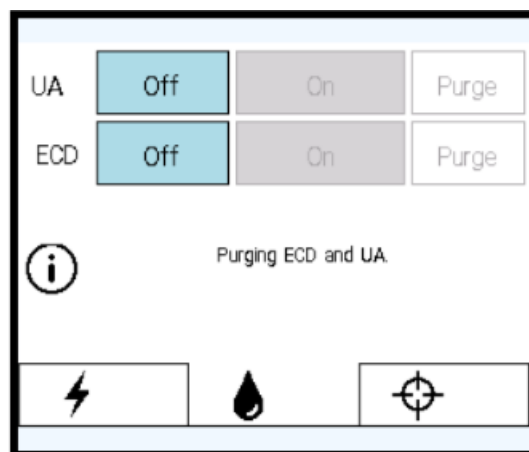
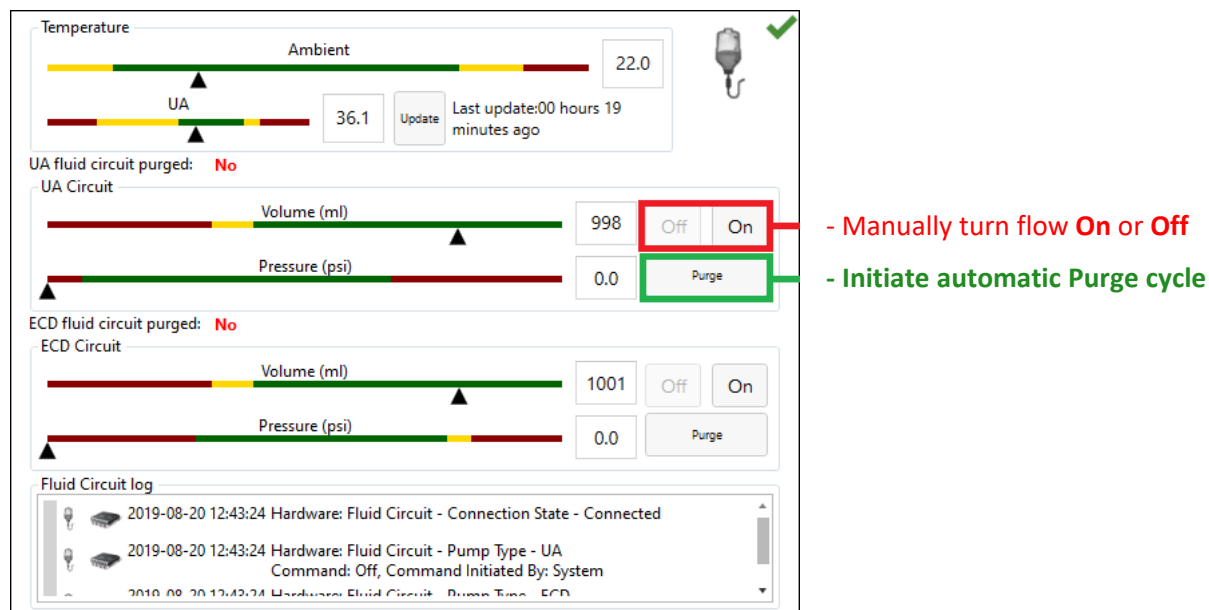

Figure 11: PSIB Display - Fluid Circuit tab
Figure 12: Fluid Circuit information box in TDC Setup workspace
- On the PSIB display, choose the **Fluid Circuit** tab  (Figure 11) and **Purge** the UA and ECD fluid circuits. You can also do this from the TDC by pressing **PURGE** beside the fluid circuit (FC) quadrant (Figure 12).
- If the purging cycle ends before completing the steps in this process, return to the PSIB display (or TDC window) and manually turn the flow on by clicking **On**. The fluid pumps will remain on until you click **Off** (*Figure 12*).